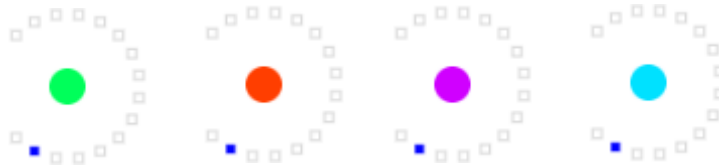

Figure 20 Encoder RGB LED
- On changing the POT10 value the encoder RGB LED will update its color. Few of the combinations are shown in the *Figure 20 Encoder RGB LED*.